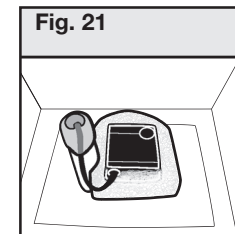

**Fig. 21**
- Fold the top of the rubber cap over the raised post to seal off the bowl (**Fig. 21**).